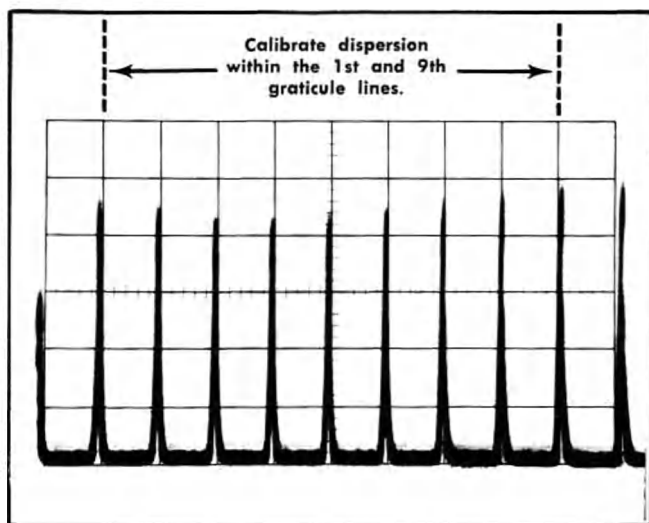

Fig. 2-7. 1 MHz Markers Output signal (phase lock reference) applied to the RF INPUT connector to check dispersion calibration.
d. Adjust the DISP-CAL for 1 marker/centimeter. See Fig. 2-7. Use the Horizontal Position control or the IF CENTER FREQ control to align the markers to the graticule lines. Dispersion is calibrated over the center 8 centimeters of the display.
2. Turn the INT REF FREQ control ccw but not OFF. Apply the 1 MHz CAL MARKERS OUT signal to the RF INPUT connector. This should provide a picket fence display. See Fig. 2-7.